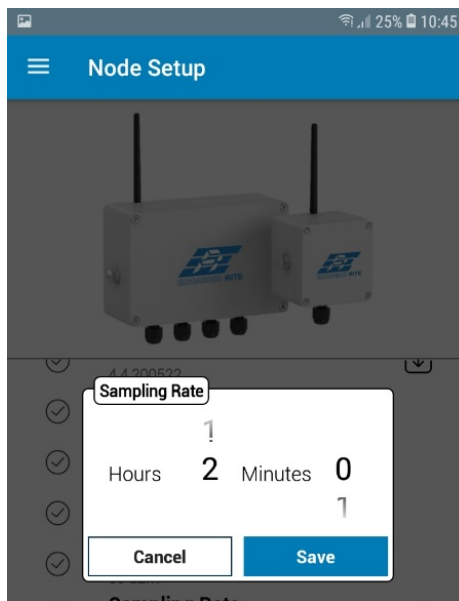

Figure 5-7
- 9. In case required, the 'Node Name' and 'Sampling Rate' inputs can be edited here by clicking on the pencil icon. Setting Sampling Rate is shown in figure 5-7. Please note that the sampling rate should be set between 1 minute to 2 hours. Factory setting is 2 hours.